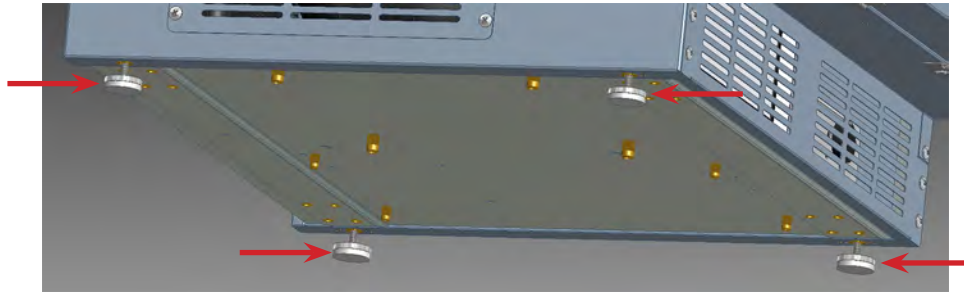

Figure 6
3. Using your hand, unscrew the 4 leveling legs located in the four corners of the unit (Figure 6).